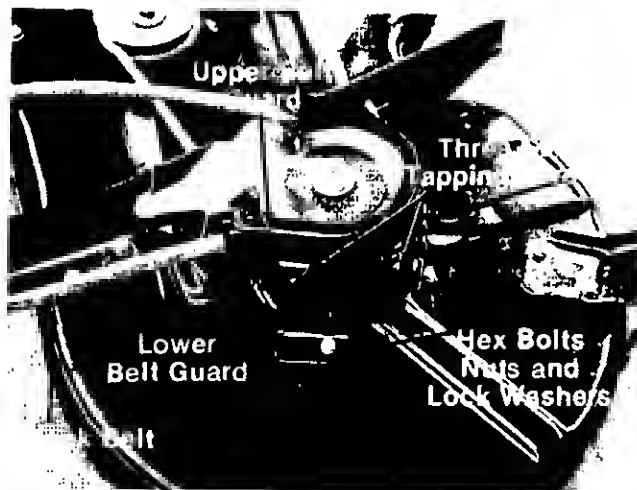

FIGURE 34.
The blade can be tested for balance by balancing it on a screwdriver. Remove metal from the heavy side until it balances evenly. See figure 34.
1. Remove three hex self-tap screws holding the upper belt guard to the lower belt guard. See figure 34.
1. Remove the deck belt and upper belt guard. See figure 34.
2. Remove the lower belt guard by removing three hex bolts, lock washers and hex nuts. See figure 34.